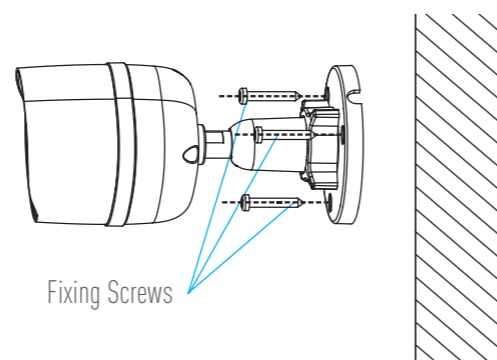

Figure 2 Fix the Camera
4. Secure the camera to the ceiling or wall with the supplied screws, see figure 2.